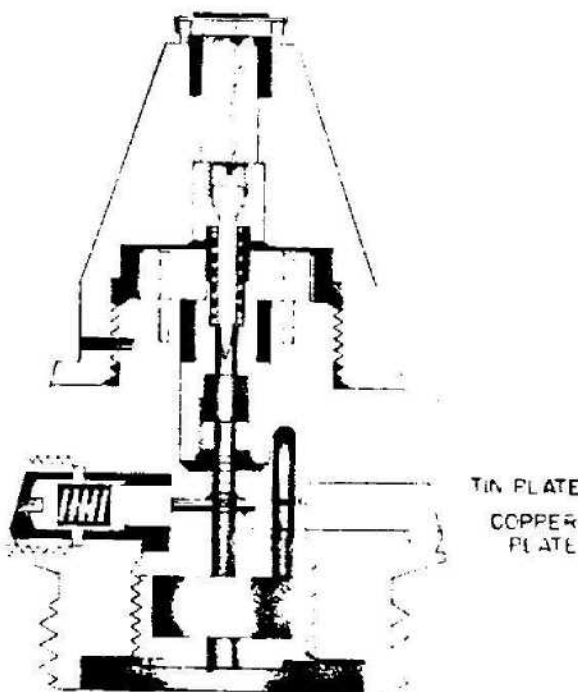

Figure 579—A. Z. 23 GEB
**EMPLOYMENT:** It is used in the 75-mm Mountain Gun. (See fig. 579.)